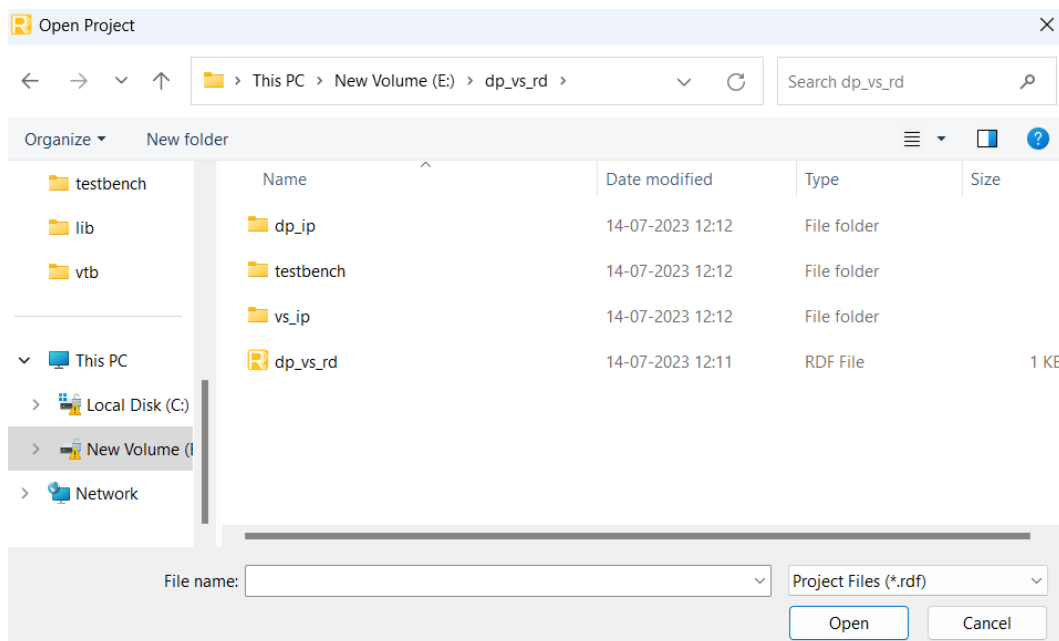

Figure 5.2. Open .rdf project file
2. Open the radiant project (.rdf file) in the project directory as shown in Figure 5.2.